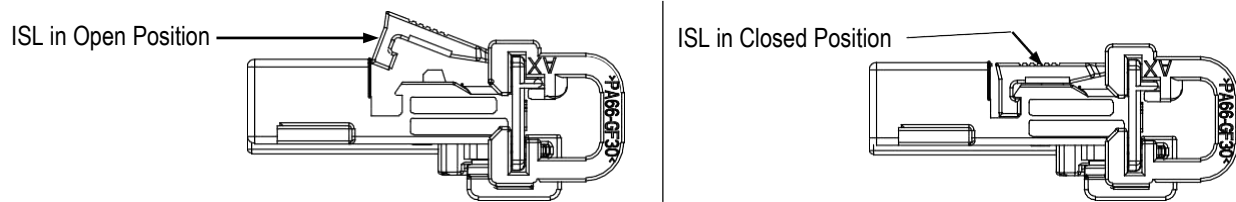

Figure 3
4. Push down on ISL with thumb until it is fully seated. There should be an audible or tactile “click” when the ISL is locked into place. See Figure 3.